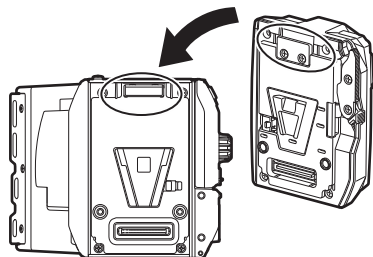

Fig. 1
- 1** Align the upper lock angle at the front of the recording module with the upper lock plate at the rear of the recording extension module. (Fig. 1)